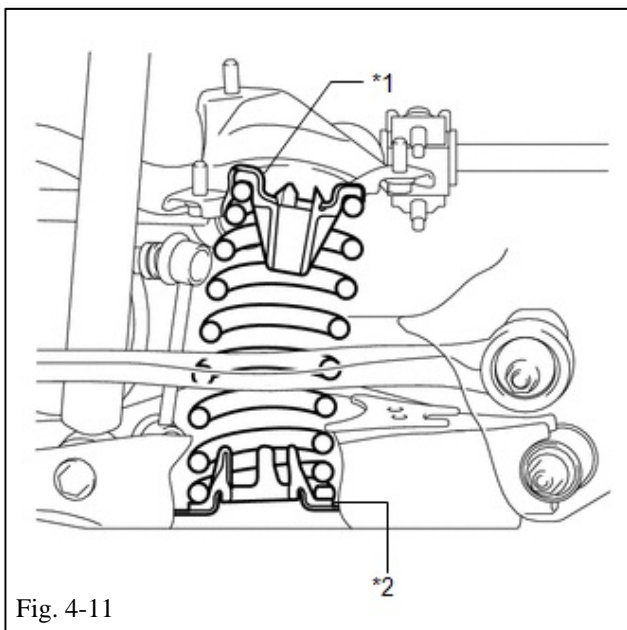

Fig. 4-11
- (n) Slowly lower the rear lower control arm and then remove the rear coil spring and rear upper coil spring insulator (Fig. 4-11).